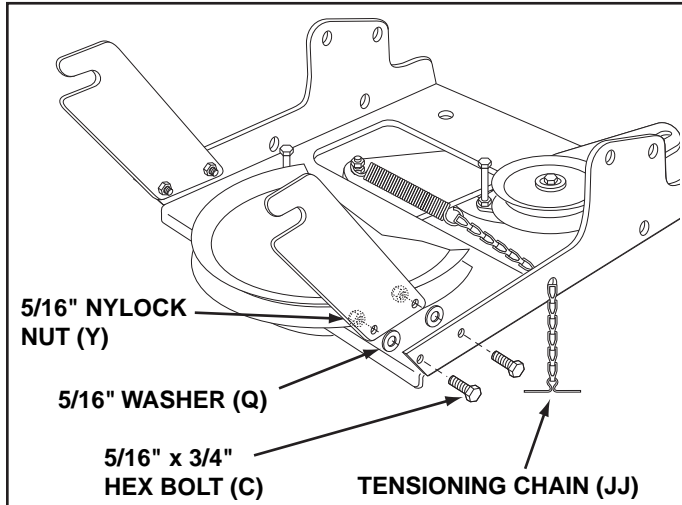

FIGURE 35
STEP 35: (SEE FIGURE 35)
- Attach the two suspension arms to the rear of the clutch/idler assembly using two 5/16" x 3/4" hex bolts (C), 5/16" washer (Q) and 5/16" nylock nuts (Y) for each arm. Place the arms on the outside of the frame with the notches to the rear.